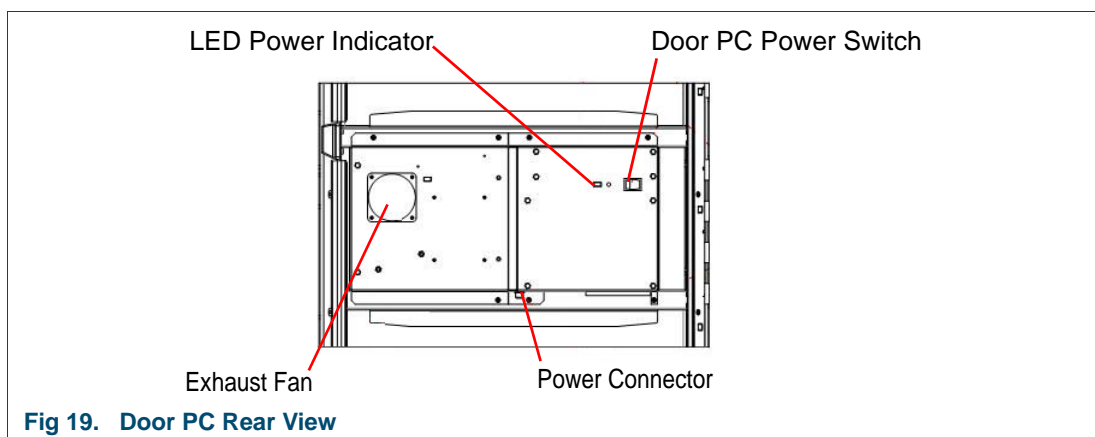

Fig 19. Door PC Rear View
2. Inside the back of the door is the power switch for the Door PC (see Fig 19.).
1. Alternatively open the door and press and release the Door PC power switch (see Fig 19.). The power switch does not latch in place.